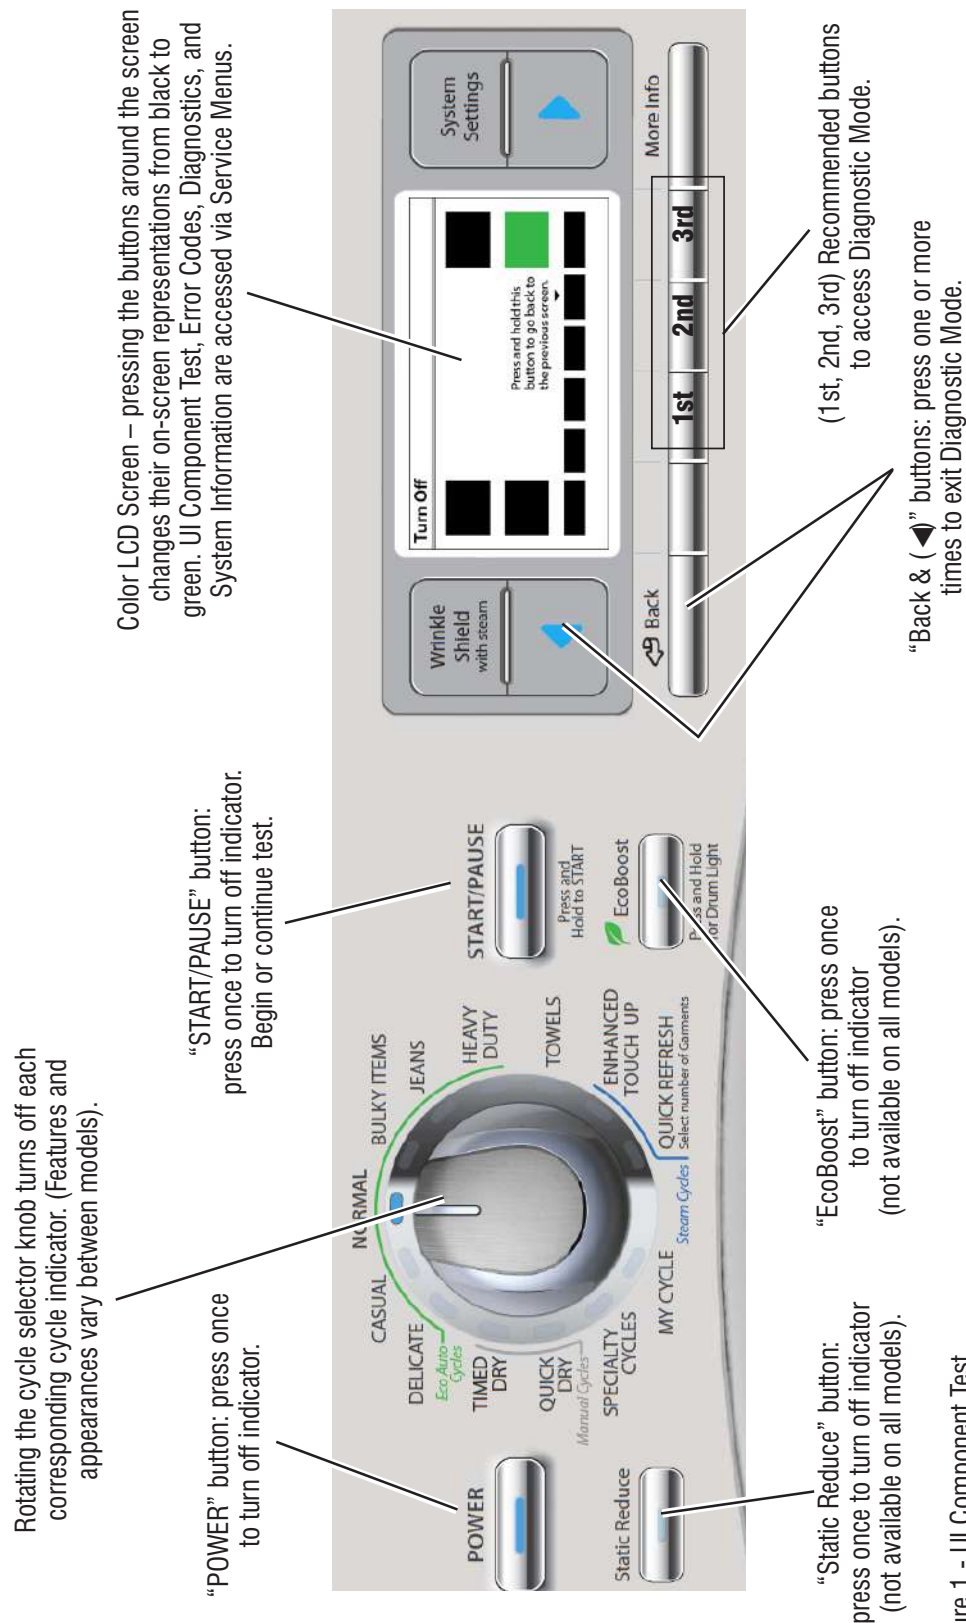

Figure 1 - UI Component Test
2. Select any three buttons (except POWER) and follow the steps below, using the same buttons. Remember the buttons and the order that the buttons were pressed. (Recommended button selections shown in figure 1):